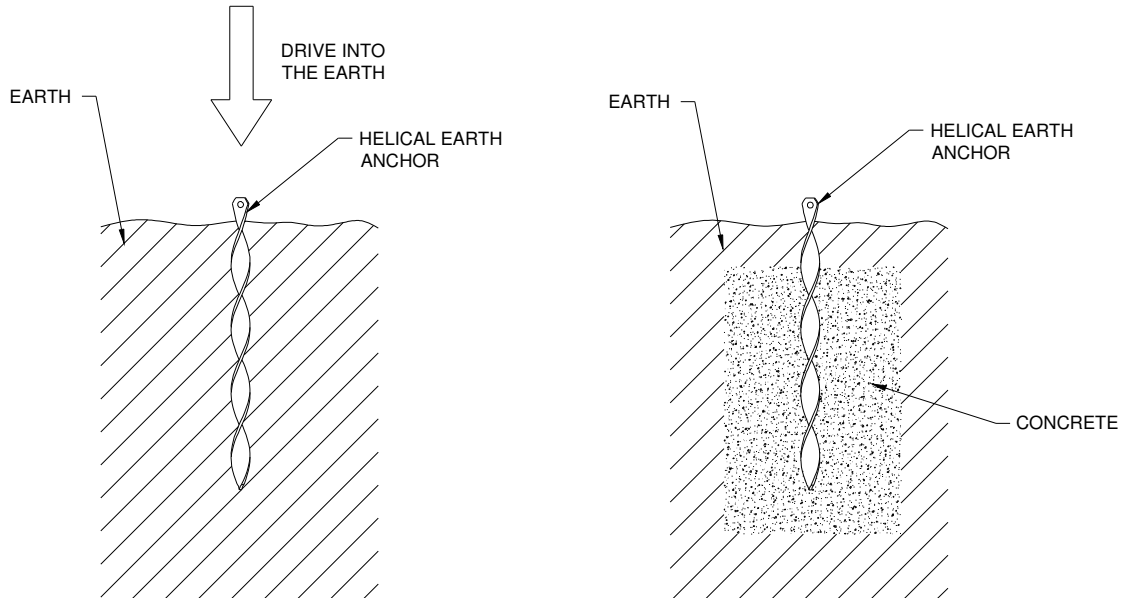

Fig 4: Guy Anchor Fixing
6. **Fix the guy anchors** - Using the positions marked out in step 4, secure the guy anchor bars into the ground. Concrete the guy anchor into position if required. If the guy anchor is being driven directly into the soil, ensure that the guy anchor bar is driven into the earth vertically or at an angle pointing away from the tower - see fig 4.